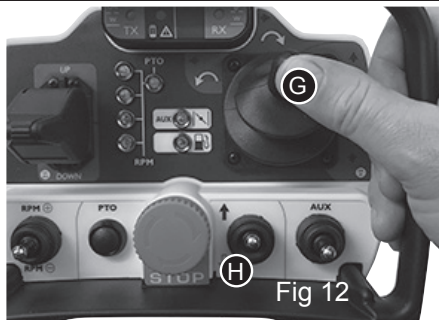
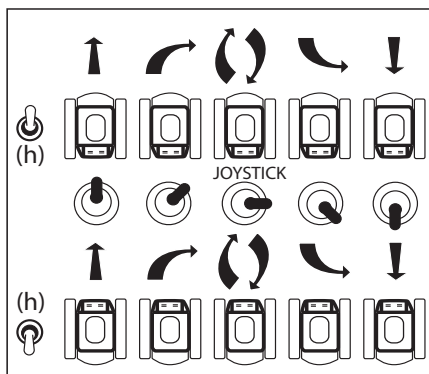

Fig 12
Fig 14
5.4 HOW TO DRIVE (fig.12)
In case it is necessary to work according to A-A path, it is provide a "REVERSING SWITCH" Fig 12(H) which make easier to drive as the machine will follow the Joystick direction. (see Fig 14 the drive direction with the 2 positions of the switch (H)).